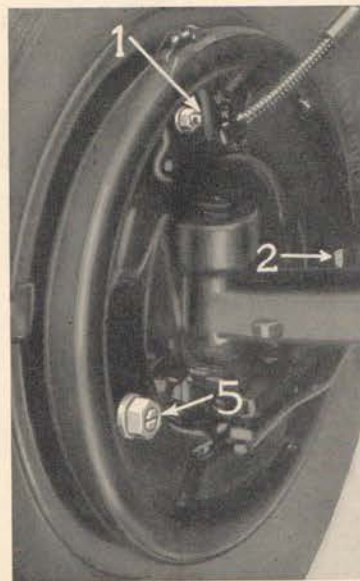

Fig. 1, FRONT BRAKE
The Eccentric Adjustment (Fig. 1). This adjustment centralizes the brake shoes in the brake drum.
4. Remove adjusting hole covers (2) (Fig. 1) and inspection hole covers on the brake drums. Loosen eccentric lock nut on the eccentric adjustment and insert .010 inch feeler gauge between the lining and the brake drum at the top shoe. Turn the eccentric in the direction the wheel revolves when the car is moving forward until the feeler is snug at anchor and adjusting ends at top shoe.